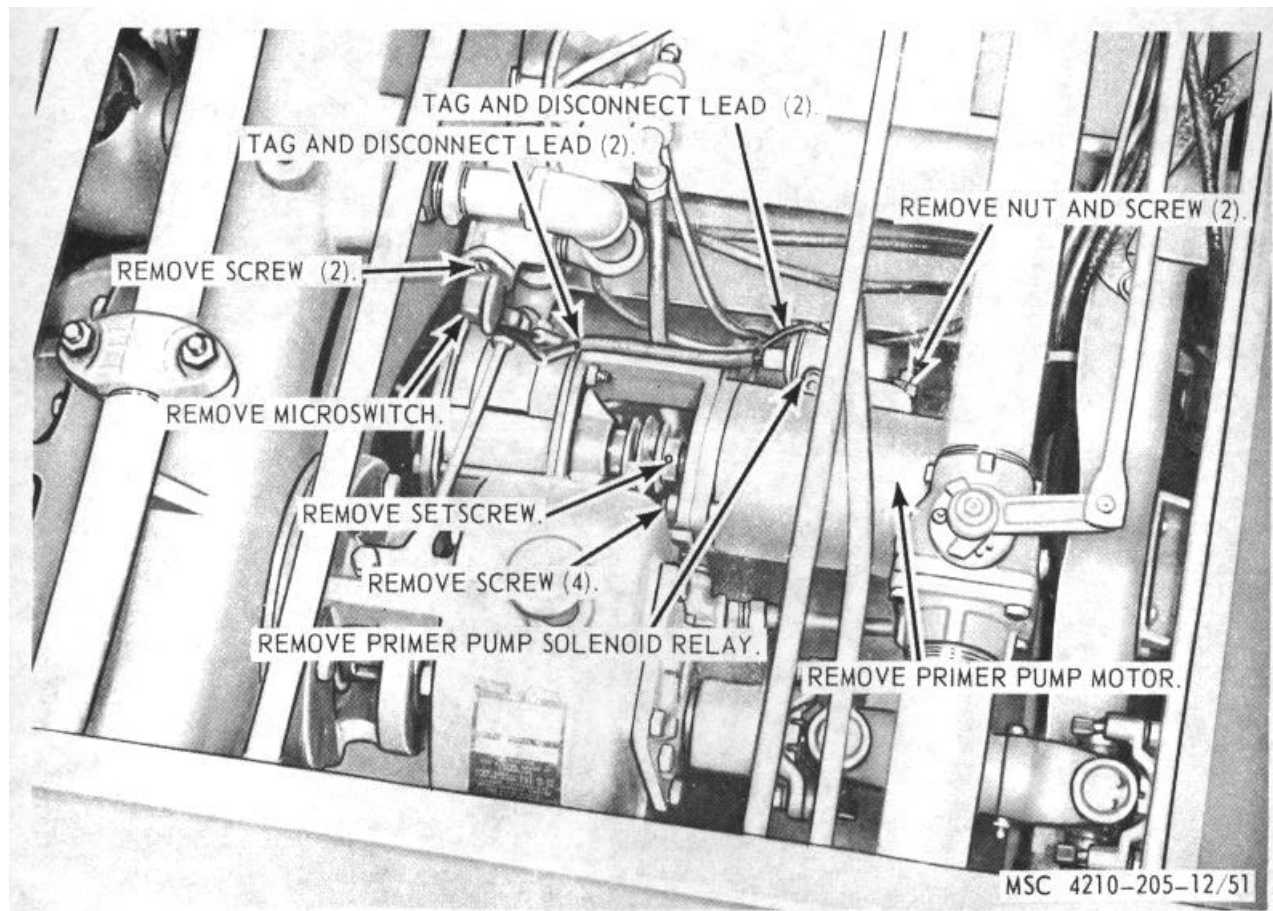

Figure 51. Primer pump solenoid, primer pump, and motor, removal and installation.
a. Removal. Refer to figure 51, and remove the primer pump motor solenoid relay from the primer pump.
- (1) Clean all parts with a clean cloth dampened in an approved cleaning solvent, and dry thoroughly.
- (2) Inspect all parts for damaged or defective condition.
- (3) Inspect lamp for cracks, breaks, or burned out condition.
- (4) Replace or repair damaged or defective parts as necessary.
c. Installation. Refer to figure 51, and install the primer pump motor solenoid relay on the primer pump.
a. Removal. Refer to figure 51, and remove the primer pump motor from the primer pump.
- (3) Replace or repair damaged or defective parts as necessary.
c. Installation. Refer to figure 51, and install the primer pump motor on the primer pump.
a. Removal. Refer to figure 51, and remove the microswitch from the primer valve.
- (1) Clean all parts with a clean cloth dampened in an approved cleaning solvent, dry thoroughly.
c. Installation. Refer to figure 51, and install the microswitch on the primer valve.